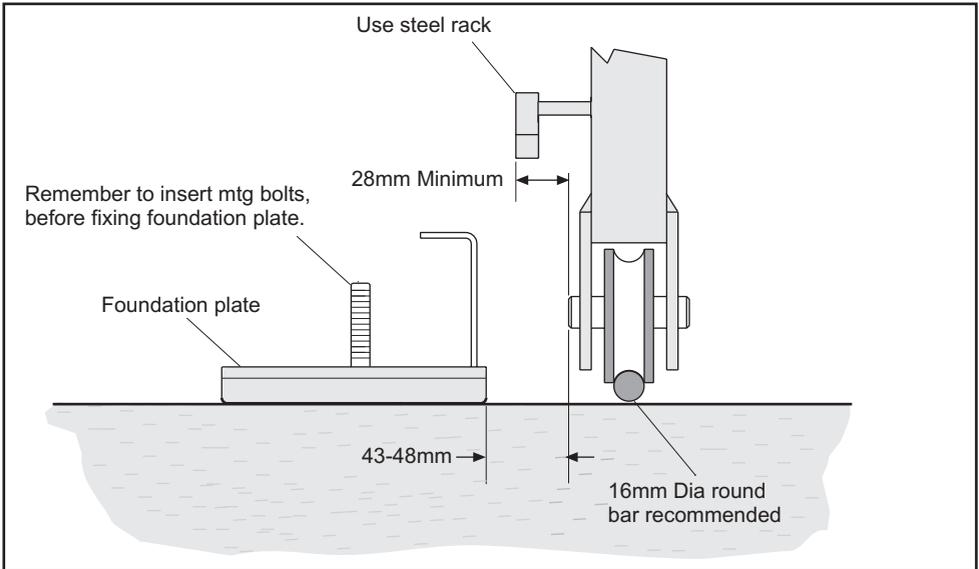

Figure 10 Rack Axle Clearance
- The LH concrete anchor (7) may need to be broken off in order to clear incoming conduits.
- **Make sure the M10 bolts (8) which secure the gearbox are in place.**
- Refer to the Fig. 10 to ensure correct positioning. Mark through the foundation plate holes to indicate where to drill holes for the M10 rawbolts (9).
- Use extra washers (10) as required to ensure the foundation plate is level.